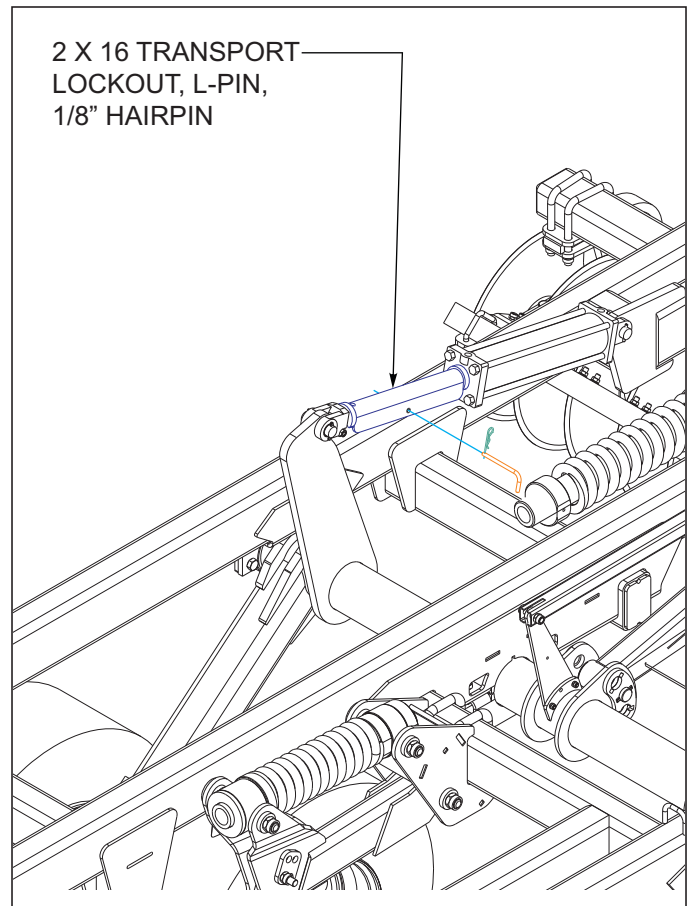

Figure 4-7: Installed Transport Locks
7. Install transport locks on both lift cylinders. Do not depend solely on implement hydraulics for transport. *See Figure 4-7.*